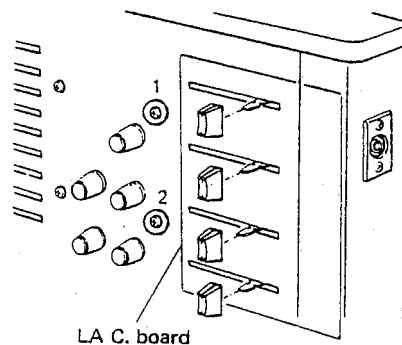

Fig. 5
- Pull out each master fader knob, remove two screws (① and ② in Fig. 5) and then remove LA circuit board.